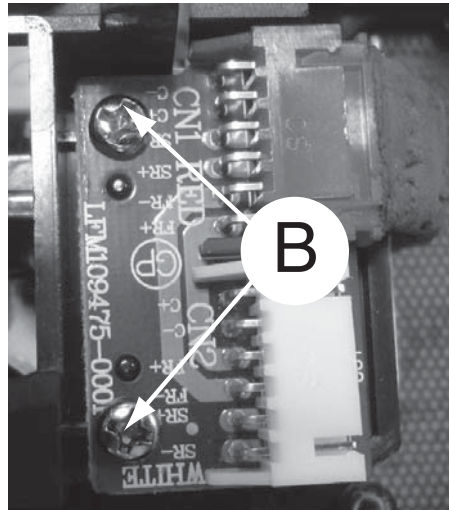

Figure 2
1) Loosen 2 screws "B" to remove the SPK Board as shown in figure 2.